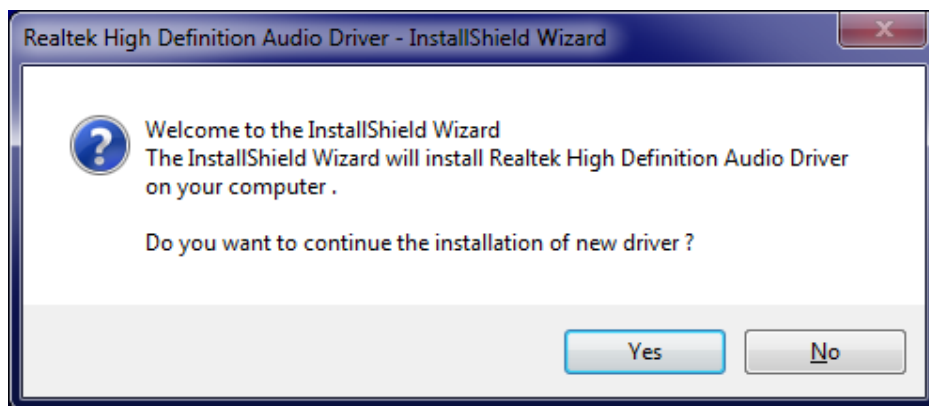

Figure 6-25: Audio Driver Welcome Screen
- Step 5:** Once initialized, the **InstallShield Wizard** welcome screen appears (**Figure 6-25**).